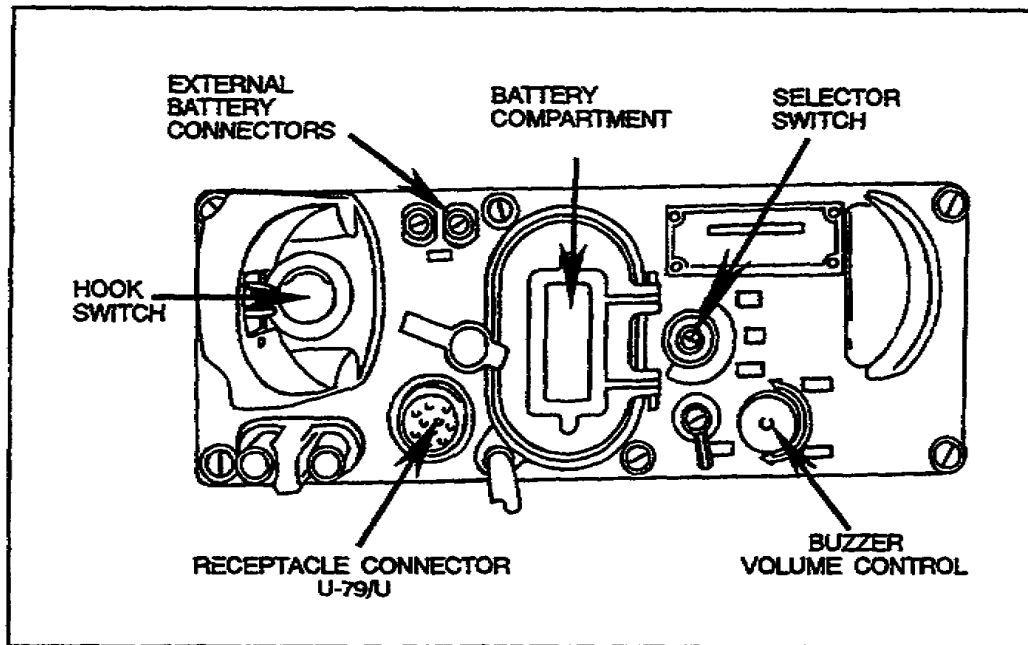

Figure 1-2. Telephone set TA-312/PT, controls and indicators.
5. Two batteries BA-30 or BA-3030 or an external 3-volt DC source are required. The external source must be connected to the battery (BAT) binding posts. (See Figure 1-2.)
e. Battery installation. If you are going to use an external battery, be sure to check the battery compartment and remove any batteries that are in it. Connect a 3-volt battery source to the BAT binding posts on the panel. If you are going to use internal batteries, open the battery compartment by turning the battery compartment latch clockwise. Insert one battery with the positive terminal up and one battery with the positive terminal down. Close the compartment and turn the latch counterclockwise to lock the cover closed (See Figure 1-2.)